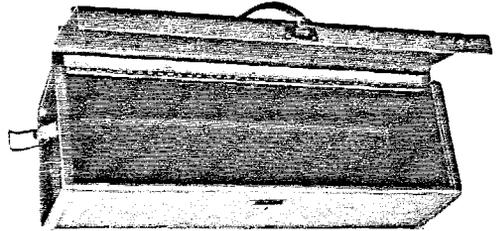

Fig. 10—B Test Connector Case for Storing C Test Connector
11.02 The B test connector case consists of a lightweight plastic box with a hinged cover, a carrying handle, a latch, and two snap catches. Supports are provided in the case for holding the B test connector in place as shown in Fig. 10.